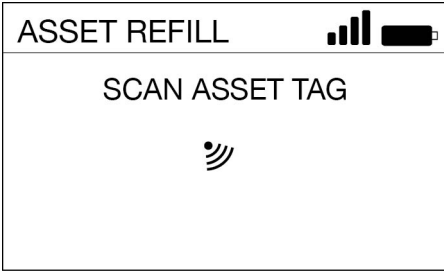

FIG. 27
- Scan the asset identification tag (NFC fob) (FIG. 27).